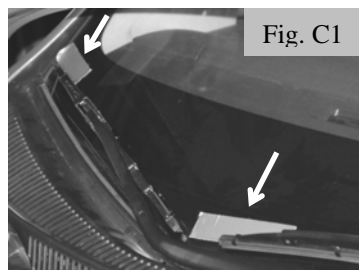

Fig. C1
2. Apply tape to windshield to mark wiper locations. (Fig. C1)